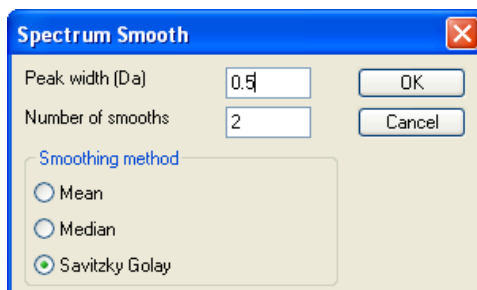

Figure 54 - Smoothing parameters
10. In the Spectrum viewer, click **Process > Smooth...** to smooth the spectrum with the settings shown in Figure 54.